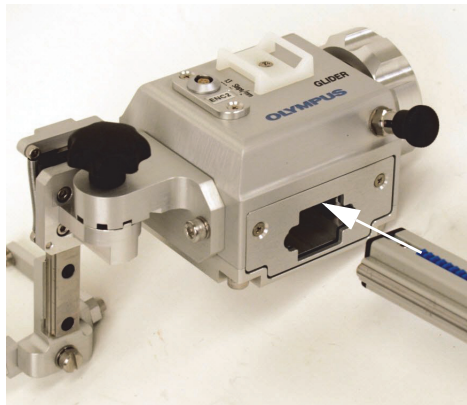

Figure 2-34 Aligning the new axis
2. Align the new axis with the opening in the encoder module (see Figure 2-34 on page 49).